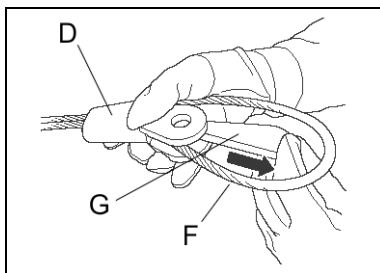
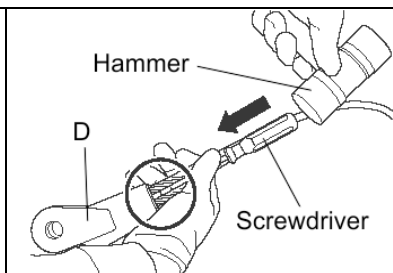

Figure 6-12
Figure 6-13
- 7) Pull the Terminal Wedge (G) out of the Terminal (D) as shown in **Figure 6-12**. If it is difficult to remove, use a screwdriver and small hammer to lightly tap it out of the Terminal (D) as shown in **Figure 6-13**.